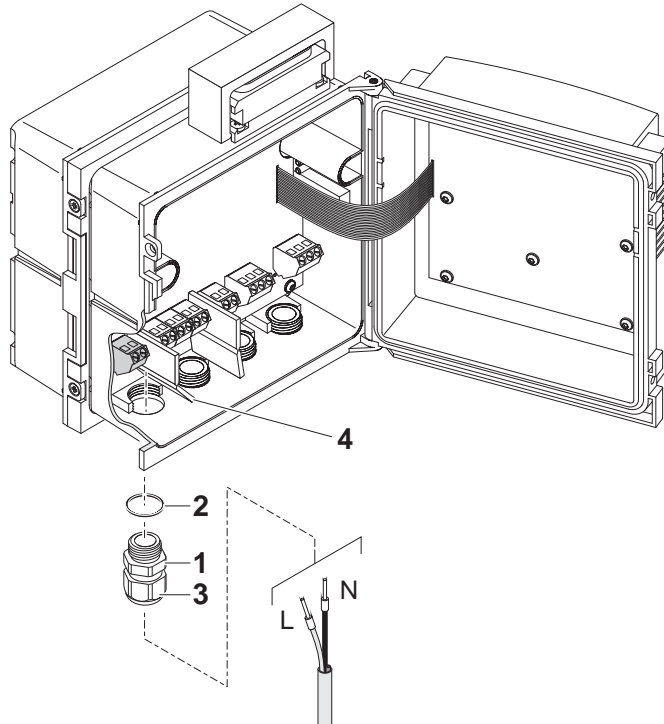

Fig. 3-26 Inserting the supply line.
| 6 | Screw a cable gland (pos. 1 in Fig. 3-26) with sealing ring (pos. 2) into the enclosure below the power supply connection. |
| 10 | Tighten the coupling ring (pos. 3 in Fig. 3-26). |